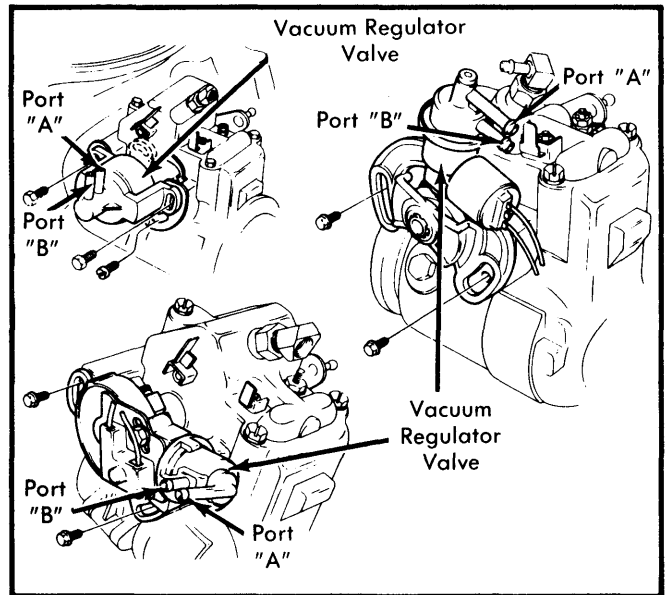

Fig. 20 Vacuum Regulator Valve Port Locations
3) Set angle gauge to 58°, then rotate throttle lever until bubble is centered. Attach vacuum pump to port "A" of vacuum regulator valve and vacuum pump to port "B". See Fig. 20.